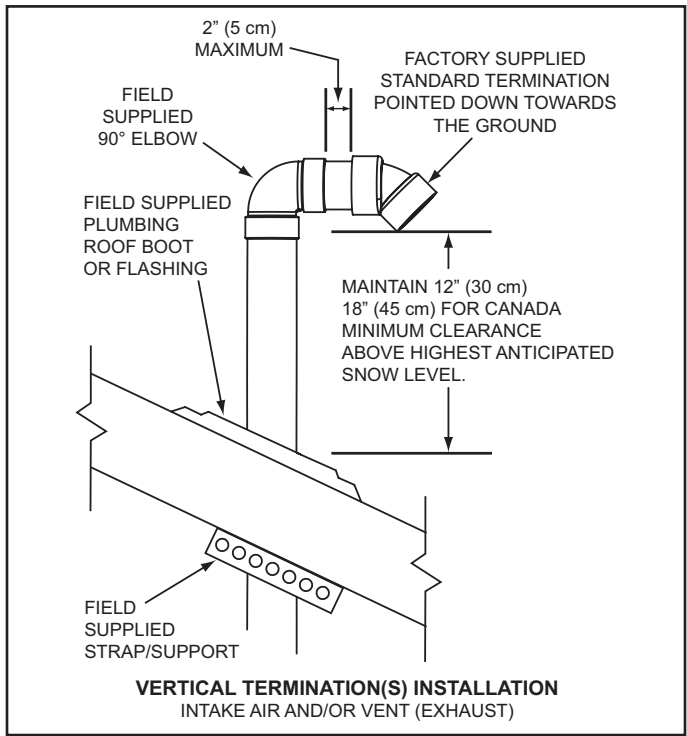
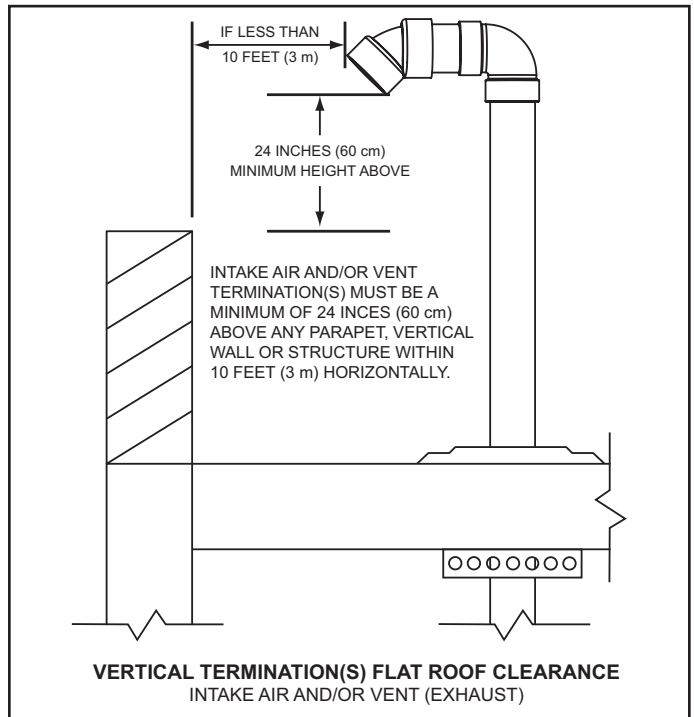
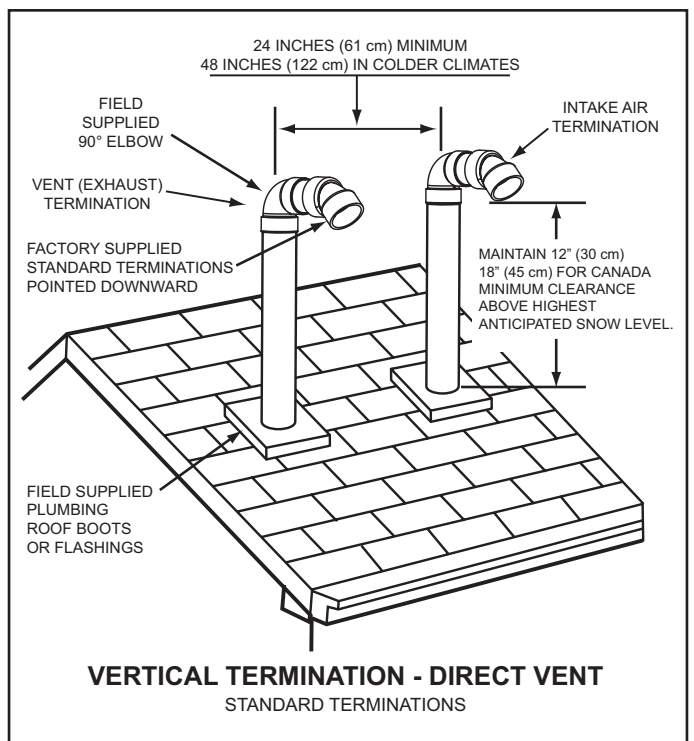

Figure 19
Figure 20
Figure 21
2. If installing only the vent (exhaust) piping in a Power Vent configuration vertically through the roof; ensure that all exterior vertical clearance requirements shown in Figure 19 and Figure 20 on page 25 are being maintained. These clearances and those cited by local and national codes must be maintained.
**NOTE:** On flat roof installations the vent termination must be a minimum of 24 inches (60 cm) above any parapet, vertical wall or structure within 10 feet (3 m) horizontally. See Figure 20 on page 25.
3. If installing both intake air and vent piping in a Direct Vent configuration vertically through the roof; ensure that all exterior vertical clearance requirements shown in Figure 19 and Figure 20 on page 25 are being maintained. These clearances and those cited by local and national codes must be maintained.
**NOTE:** On flat roof installations the intake air and the vent terminations must be a minimum of 24 inches (60 cm) above any parapet, vertical wall or structure within 10 feet (3 m) horizontally. See Figure 20 on page 25.
The vent termination must be oriented facing downward as shown in Figure 19 and Figure 20 on page 25.
The bottom edge of the vent termination must be a minimum of 12 inches (30 cm), 18 inches (45 cm) in Canada, above the average or expected snow level as shown in Figure 19 on page 25.
of the roof as shown in Figure 21 on page 25.
The intake air and vent terminations must be oriented facing downward and in the same direction as shown in Figure 21 on page 25.
The intake air and vent terminations must have a minimum separation of 24" (61 cm) measured on center line as shown in Figure 21 on page 25. In colder climates this separation should be increased to at least 48 inches (122 cm).
The bottom edge of the intake air and vent terminations must be a minimum of 12 inches (30 cm), 18 inches (45 cm) in Canada, above the average or expected snow level as shown in Figure 19 and Figure 21 on page 25.
The distance between the closest vent and intake air terminations must be a minimum of 24 inches (61 cm) as shown in Figure 21. In colder climates this separation should be increased to at least 48 inches (122 cm).
- Suspend the pipe(s) through center of hole using field supplied metal strapping or equivalent support materials as shown in Figure 19.
- Slide a roof boot or equivalent flashing over the pipe and secure roof boot or equivalent flashing to roof (see Figure 19) and seal around the flashing.
- Install the factory supplied intake air and/or vent termination(s) using field supplied pipe and one field supplied 90° elbow as shown in Figure 19. The short section of pipe that connects between the field supplied 90° elbow and the factory supplied
termination must not be excessive in length. The exposed portion of this pipe shall be no more than 2 inches (5 cm), see Figure 19.